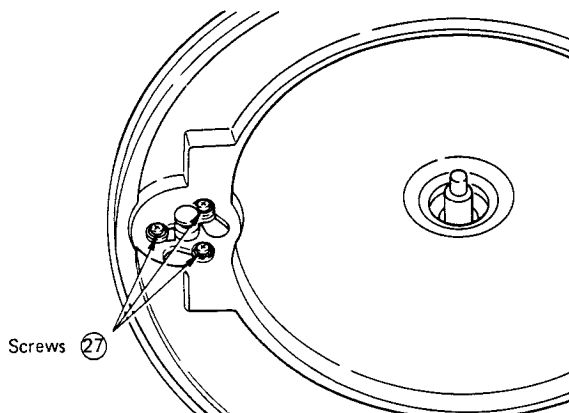

Fig. 23
- 1) As shown in Fig. 23 the motor can be removed by removing the three screws (27)